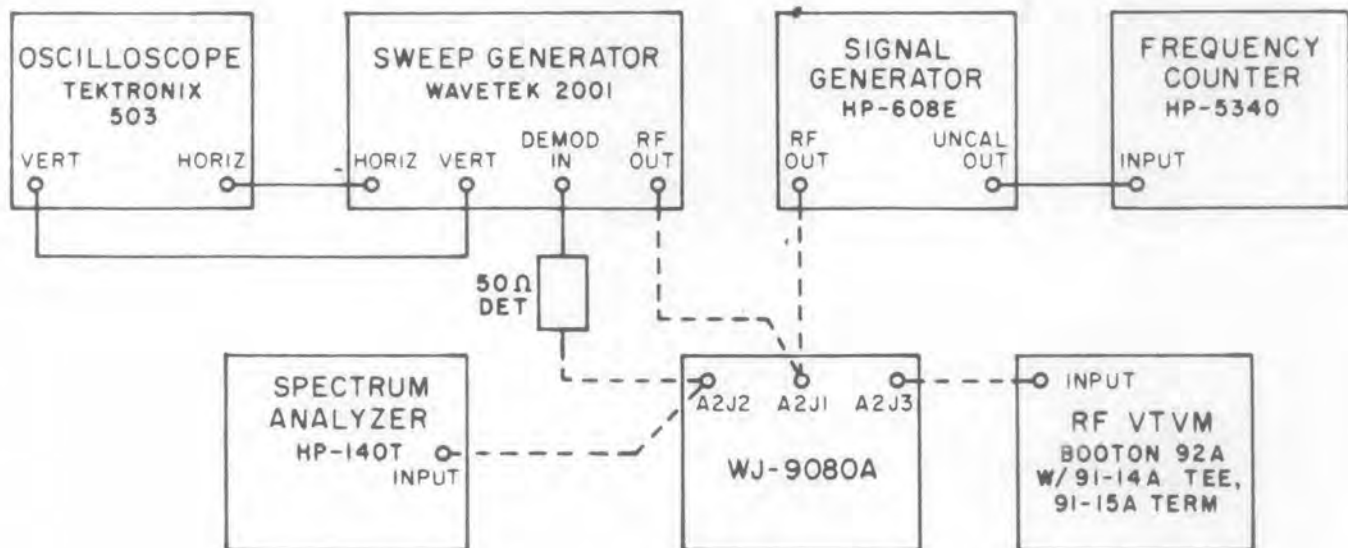

Figure 4-4. Equipment Setup, 160 MHz Power Splitter/Amplifier Alignment
- (1) Interconnect the test equipment as shown in Figure 4-4.
- (2) Remove the input and output cables from A2J1, A2J2, and A2J3, tagging each to insure proper replacement.
- (3) Adjust the signal generator to produce a 160 MHz CW signal at a level of -30 dBm and connect it to A2J1.
- (4) Connect the RF VTVM to J3 and measure the insertion loss. It should be a maximum of 6 dB.